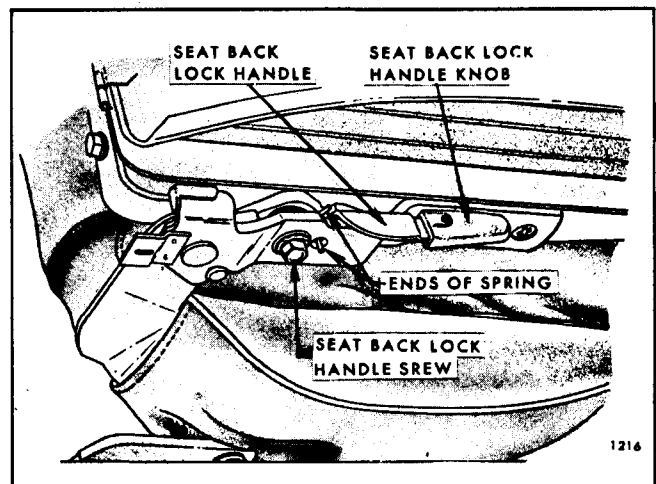

Fig. 14-81-Seat Back Lock (Vista Cruiser "66" Style)
2. Install lock handle, bushing and spring into position between seat back panel and outer linkage making sure end of spring is engaged in hole in outer link (Fig. 14-81).